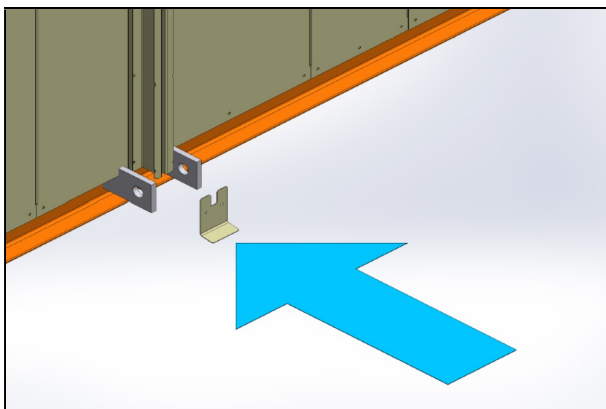

Figure 7: Metal plate for structure base frame
- Two metals pieces are supplied, for each side of the section, to hide the joint at the structural base level. Before **fixing** the metal plate on the structure, apply a generous bead of sealant behind the plate. Repeat the same step for each side of the unit (**Figure 7**).